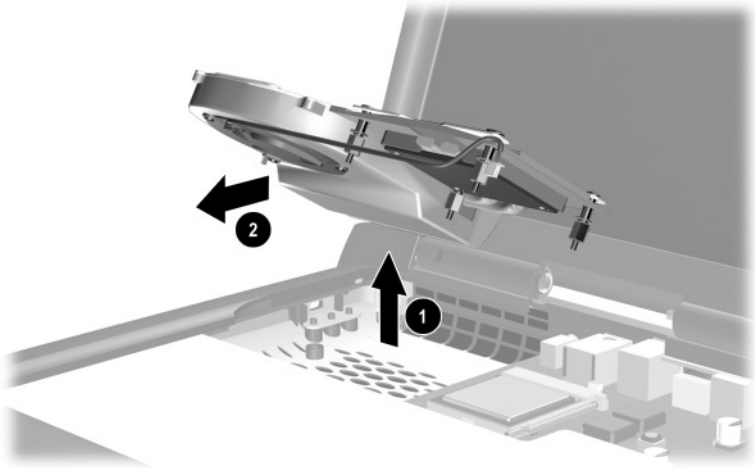

Figure 5-16. Removing the Heat Sink
7. Lift the front edge of the heat sink ❶ until it clears the top cover (Figure 5-16).
8. Slide the heat sink forward ❷ until the back of the heat sink clears the top cover.